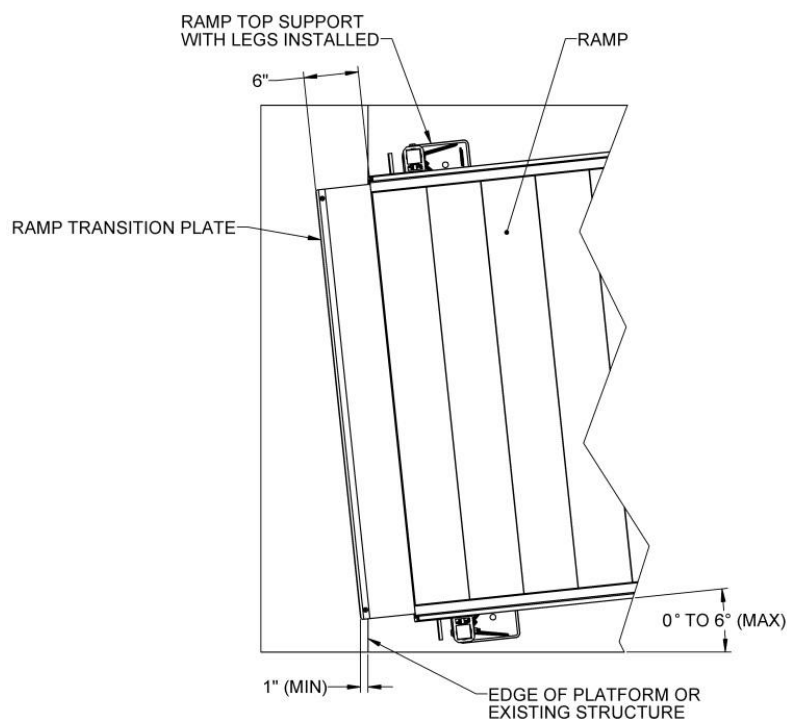

FIG. 3.12
- 3.7.1. Angles up to approximately 6° can be accommodated. Refer to the appropriate sections in the 'OPTIONAL EQUIPMENT' section for installing PHDTP48 or PHDTP54 (TRANSITION PLATE 48" or 54") and PHDRST (RAMP SUPPORT), and the previous sections for installing and adjusting ramp support legs (FIG. 3.12).
- 3.7.2. The transition top plate should overlap the surface of the platform, porch, or deck by at least 1", regardless of the angle required (FIG. 3.12).